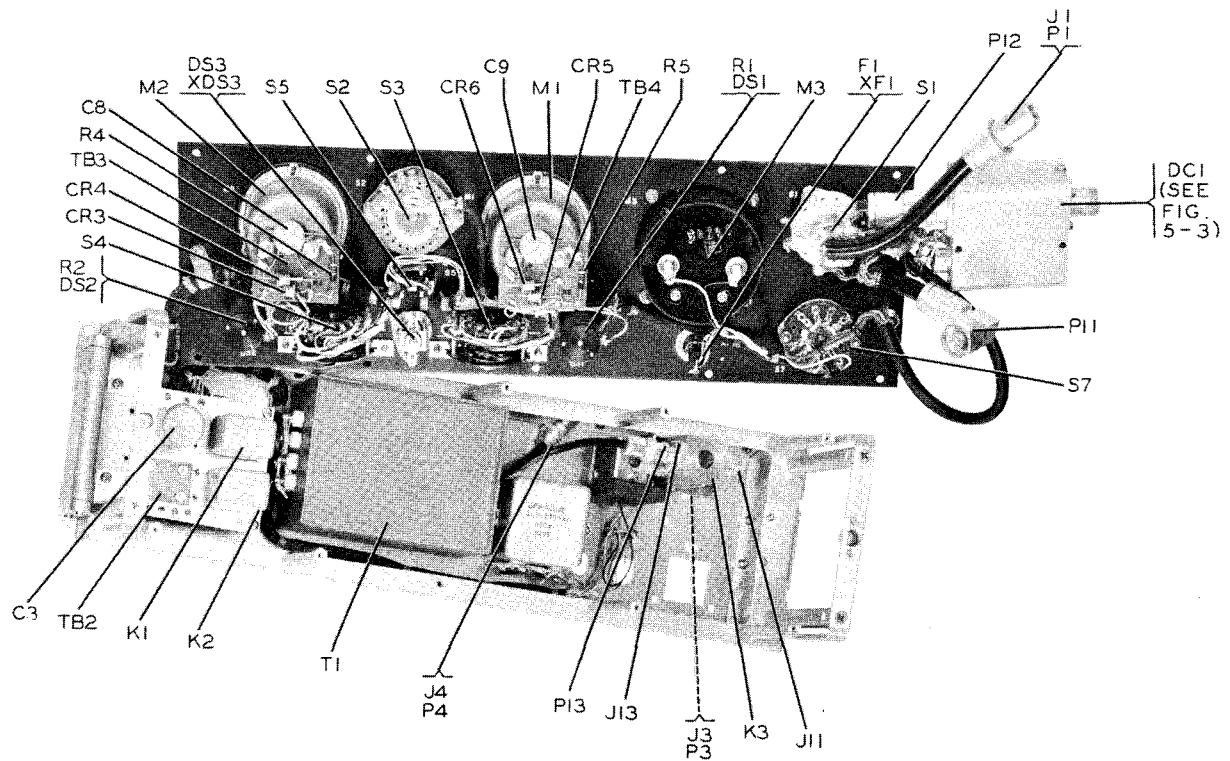

Figure 5-2. Coupler Control C-2698/SRA-22, Front Panel Removed
(1) Radio Set AN/URC-32 should be de-energized.
(2) Release the thumb fasteners on the dust cover of the coupler control. Remove the dust cover.
(3) Remove the two screws that mount the right side of the coupler control to the rack. This will allow the unit to swing out.
(4) Remove coaxial plugs P1, P2, P3, P4, and plugs P5 and P6 from connectors on rear panel of unit.
(5) Grasp the unit firmly, and remove the two screws that mount the hinge to the rack. Carefully lay the unit on a bench.
(6) Remove coaxial plug P5 from directional coupler.
(7) With a suitable wrench, remove the nut and lock washer from connector J1.
(8) Remove the 14 screws and lock washers holding the rear panel to the chassis. This will allow the rear panel to swing down. Care should be taken not to damage the cable.
(9) Viewing the coupler control from the front, remove the nine screws that mount the front panel to the chassis. This will allow the panel to swing down. Care should be taken not to damage the cable.
(10) Repeat paragraph 5-7a in reverse order for reassembly of front and rear panels. With the front and rear panels removed, the disassembly or removal of components is obvious. Refer to figures 5-2, 5-3, and 5-4 for location of components. The only adjustment necessary in this unit is that of potentiometers R1 and R2. Refer to paragraph 5-6 of this section for complete alignment procedure.